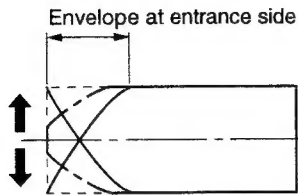

Fig. 2-7-11 Video envelope rising when operation mode is switched from review to play mode
2. Switch the Review mode to the Play mode. When switched to the Play mode, make sure the entrance side envelope comes to an approximate steady state within 3s as shown in Fig. 2-7-11.